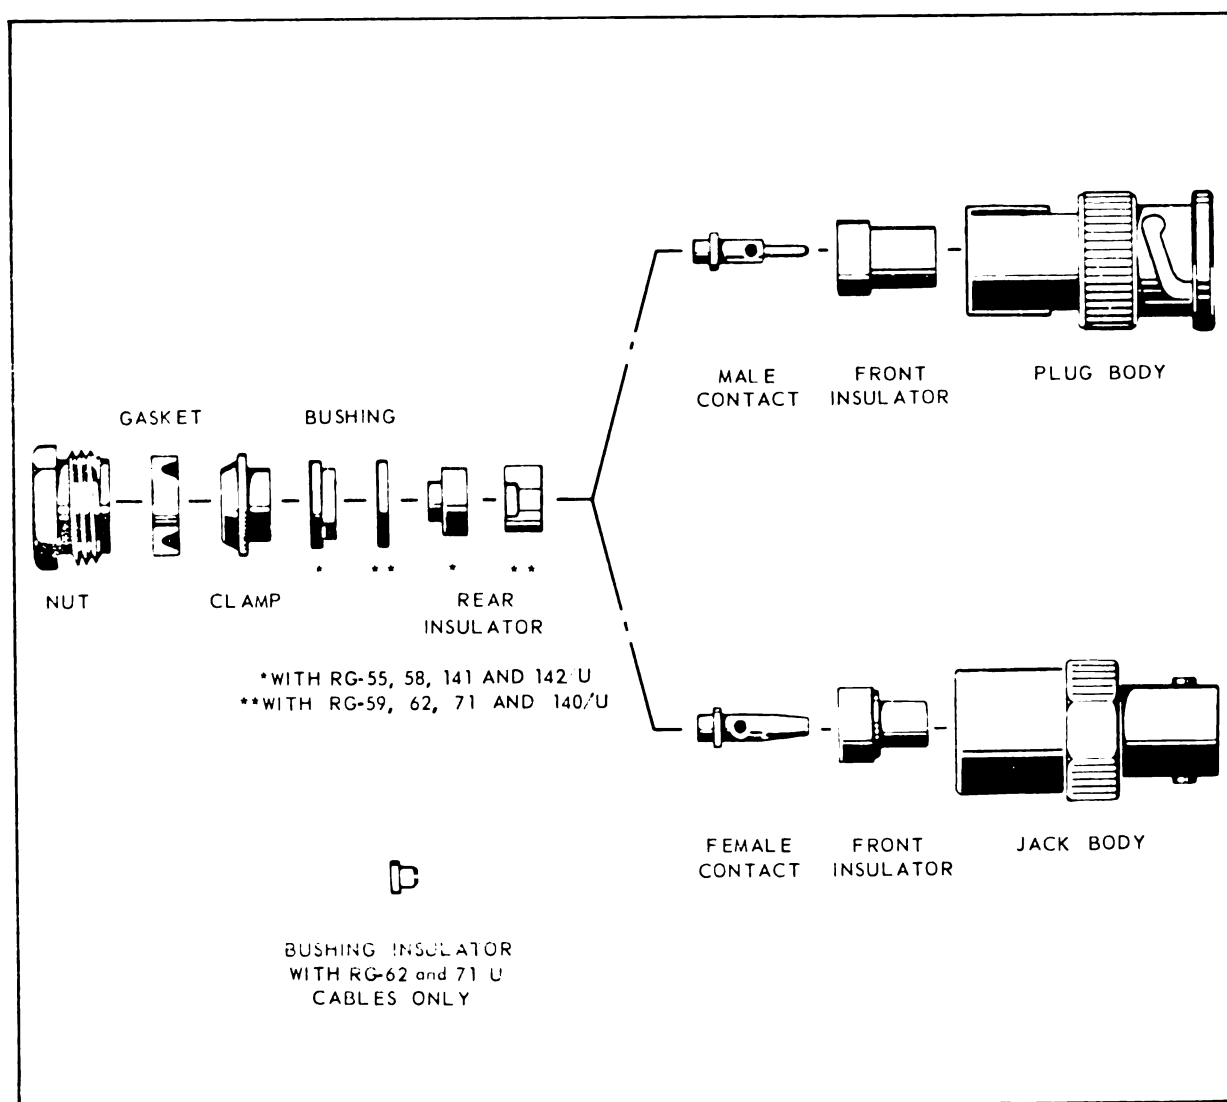

Figure 4-16. BNC Connectors with Captivated Contacts – Exploded View
b. Captivated Contact Version (see figure 4-16) - similar to the improved version, but with the addition of a bushing and front and rear insulators. When assembly is to RG-62 and 71/U cables a bushing insulator is added between the bushing and rear insulator. This version does not have military numbers.
d. Disassemble nut, grooved gasket and sleeve clamp from plug or jack body. See figure 4-16.